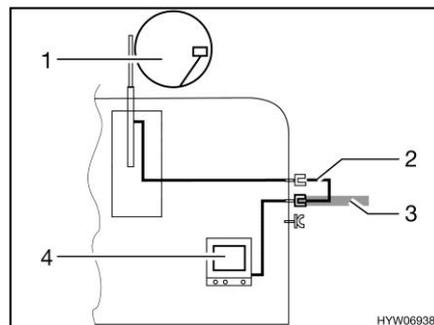

Fig. 109 TV inside the vehicle
- TV inside the vehicle (Fig. 109,4): Connection to roof antenna (Fig. 109,1) with connection cable (Fig. 109,2)
- TV inside the vehicle (Fig. 109,4): Connection to external antenna (Fig. 109,3)